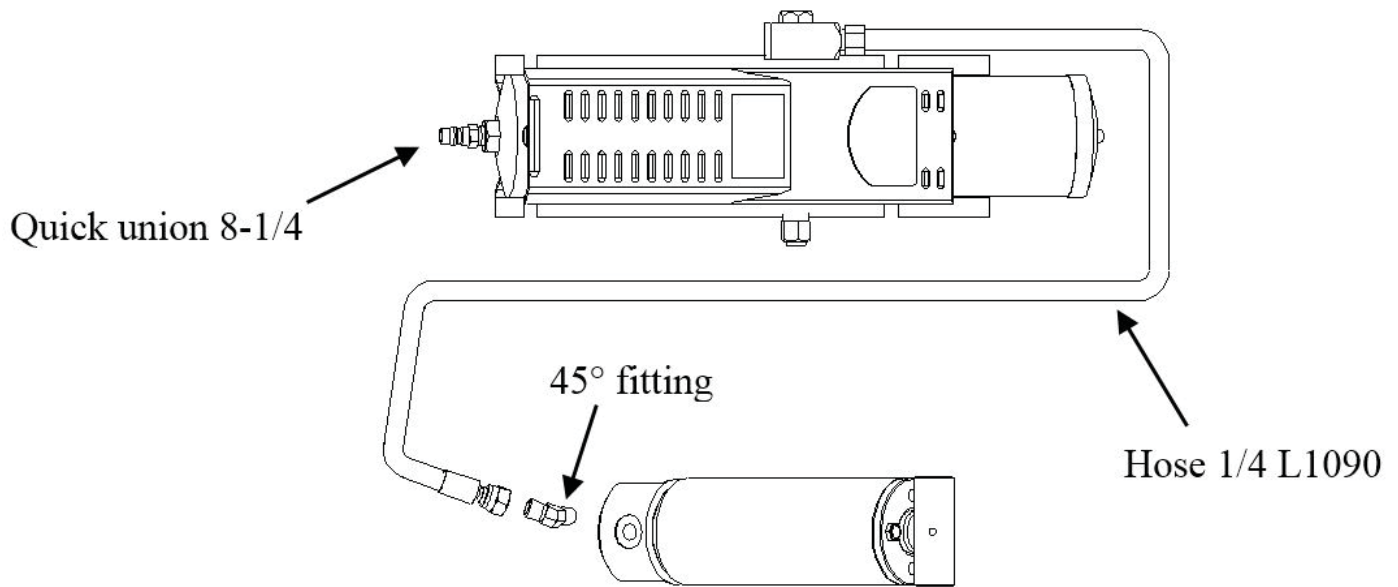

Figure 24 – Hydraulic Line Connection Of Jacking Beam
- Connect the hydraulic hose following the figure 24.